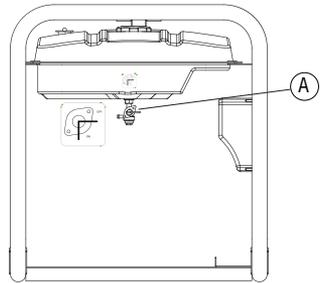

Figure 3-2. Fuel Shut-off Valve
3. See Figure 3-2. Open the fuel shut-off valve (A).
3. Open the fuel shut-off valve. See Figure 3-2.